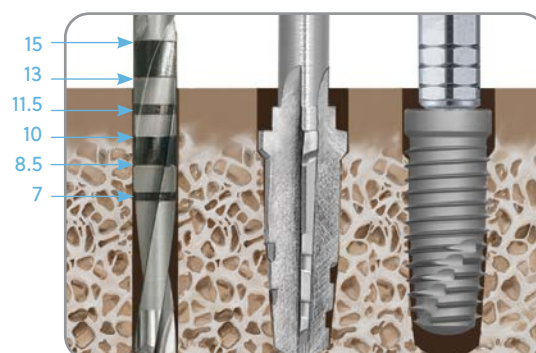

Fig. 2 Over Prepared Subcrestal Placement Of 11.5 mm Implant
**Over Preparing** the osteotomy depth and then placing the implant at a crestal level may result in a conical space around the apical and coronal aspects of the tapered implant minimizing thread engagement [Fig 2]. This placement position may result in decreased implant to osteotomy contact, with contact occurring only along the parallel coronal portion of the implant, resulting in decreased stability of the implant.